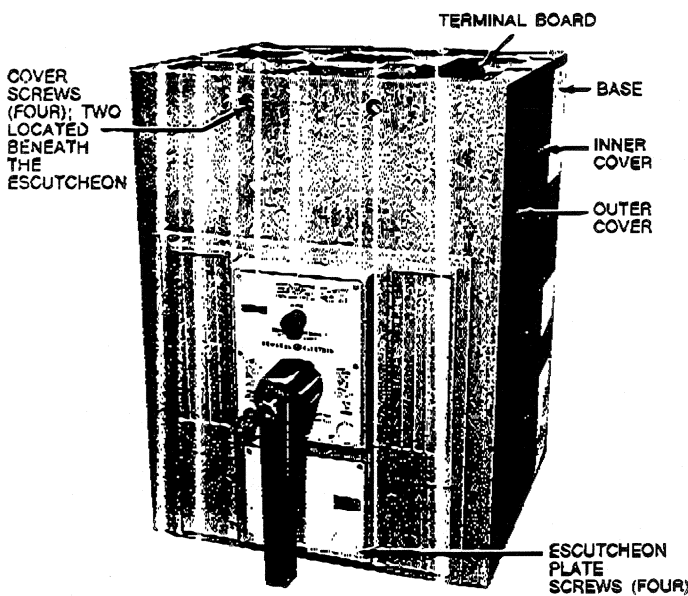

Fig. 1. Front view of Power Break[®] circuit breaker.
1. Loosen four screws, shown in Fig. 1, and remove the escutcheon plate.
- d. Replace and secure the cover escutcheon. See Fig. 1.